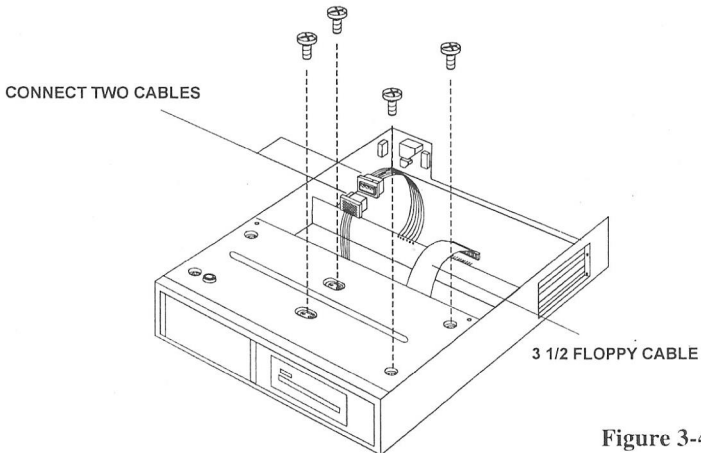

Figure 3-4
10. Replace the gray bottom panel, taking care to align the screw holes in the panel with those in the bottom panel of the floppy disk drive carriage. Place the screws in these holes, thus securing the gray bottom panel to the 3 1/2 inch floppy disk drive carriage as well as to the housing of the Docking Station (see figure 3.4).